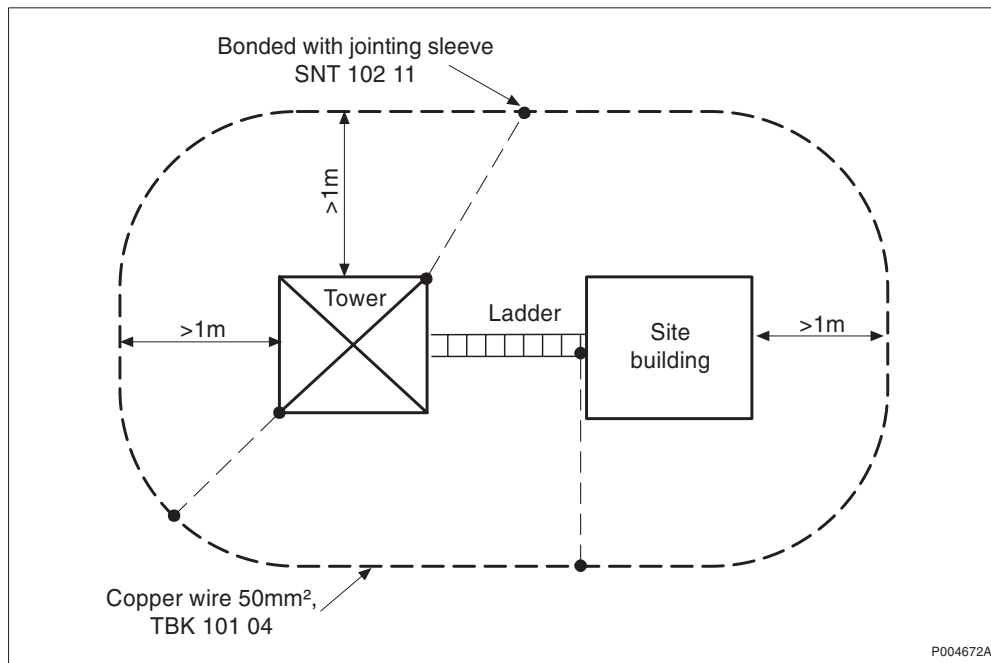

Figure 2 Typical ring earth electrode system on ground
1. Lay an earth electrode with a 50 mm² copper wire ≥ 0.5 m deep around the site (mast/tower included), see figure 2 and connect to at least 2 mast/tower legs so that 2 paths to earth are always achieved.